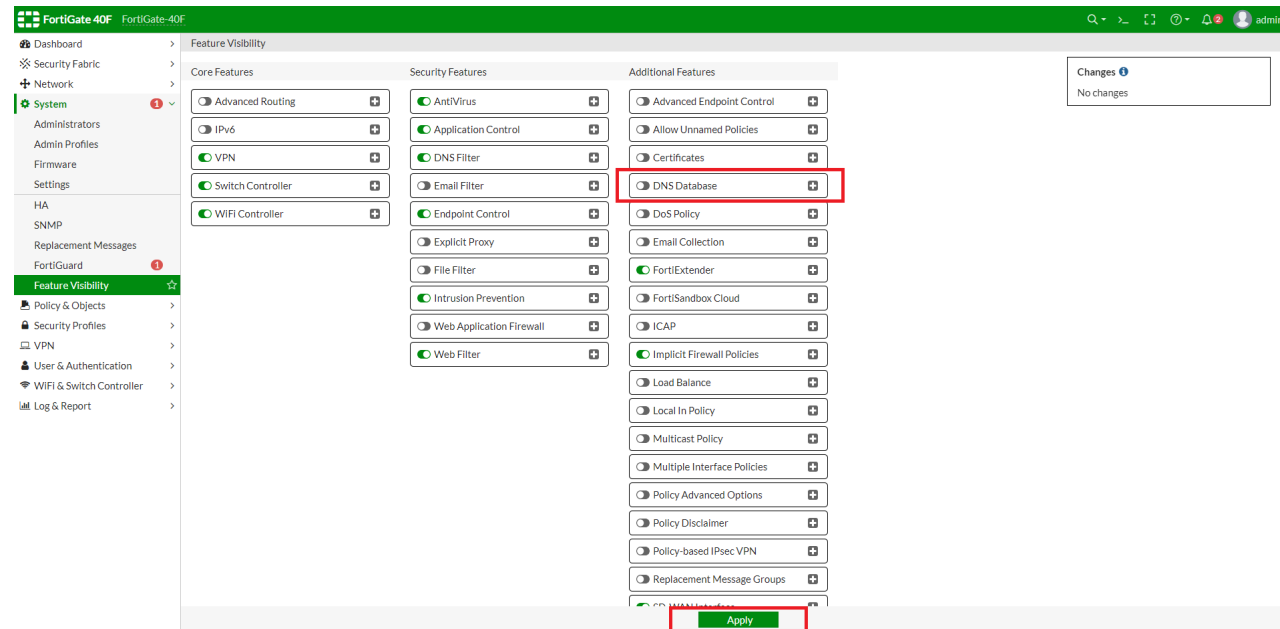

Figure 9
2. Navigate to "System" in the navigation panel then select "Feature Visibility". Enable "DNS Database" by selecting the toggle next to it. Apply the changes by selecting "Apply". (Figure 9)